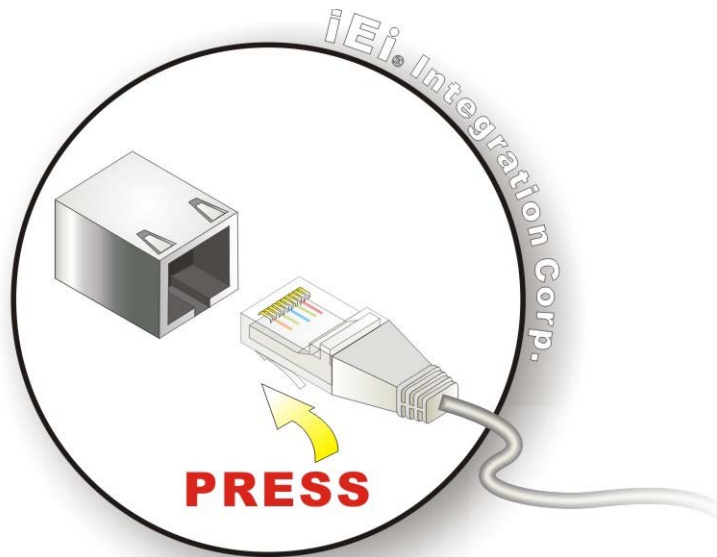

Figure 4-15: LAN Connection
Step 2: Align the connectors. Align the RJ-45 connector on the LAN cable with one of the RJ-45 connectors on the PCIE-H610. See **Figure 4-15**.